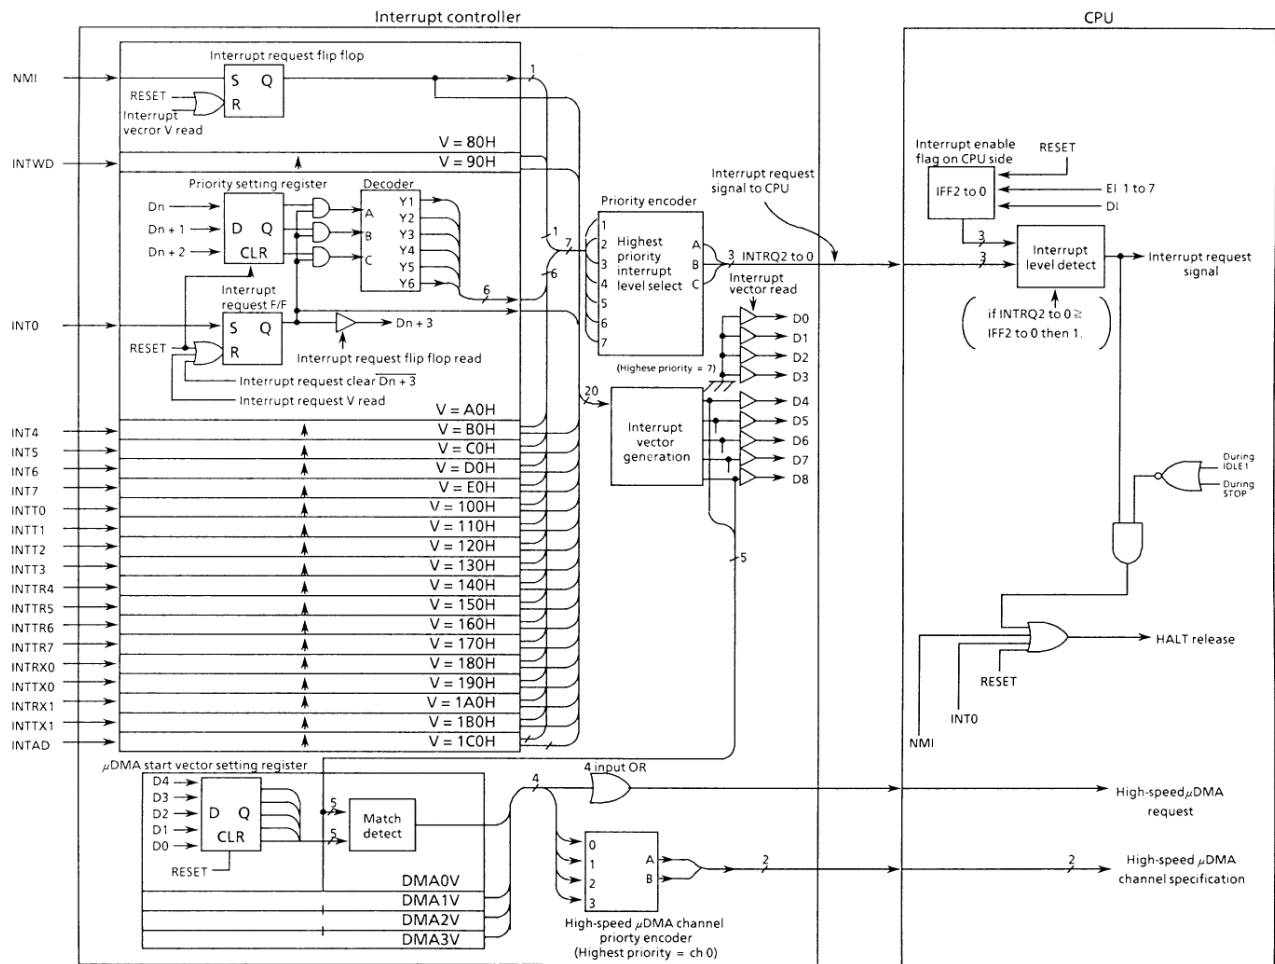

Figure 3.4.3 (1). Block Diagram of Interrupt Controller
Figure 3.4.3 (1) is a block diagram of the interrupt circuits. The left half of the diagram shows the interrupt controller; the right half includes the CPU interrupt request signal circuit and the HALT release signal circuit.